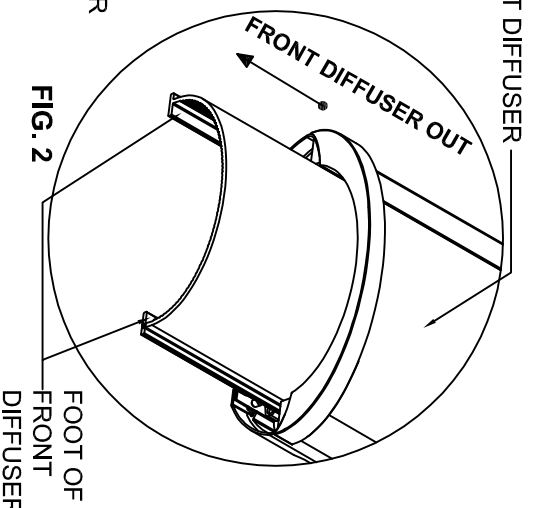

FIG. 2
3. Remove the front diffuser by sliding it out from the main fixture. (FIG. 2)